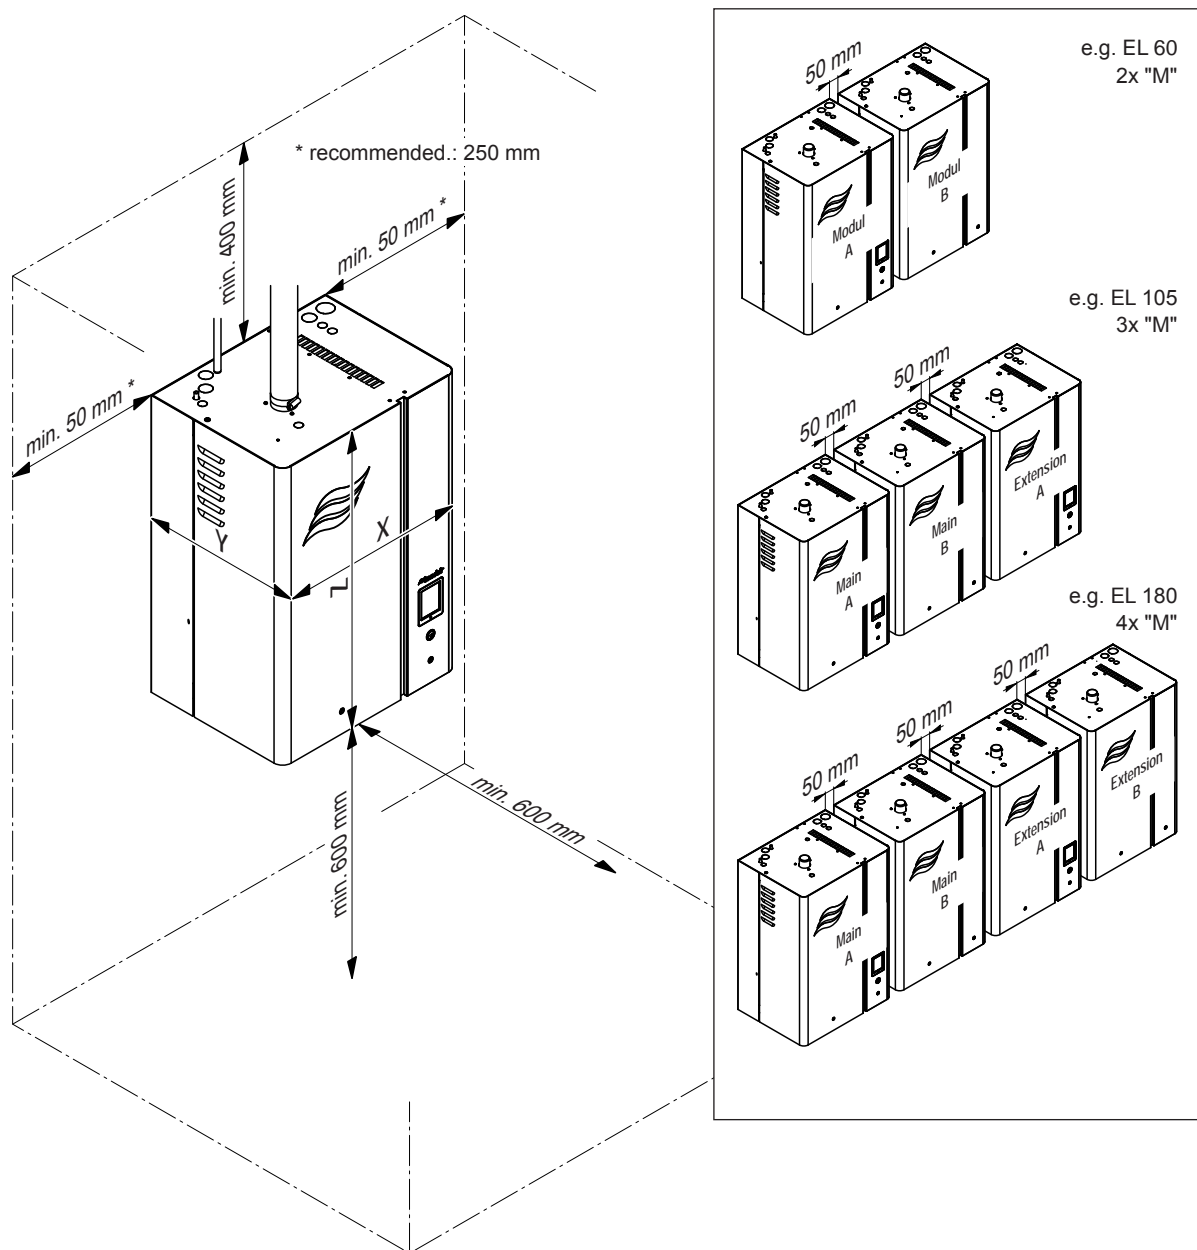

Fig. 9: Distances to be observed
- Install the Condair EL in such a manner that it is **freely accessible** with sufficient space available for maintenance purposes. The **minimum distances** shown in Fig. 9 **must be maintained**.
- In order to use the cables supplied with double units and Linkup systems, the unit must be mounted on the same height, with a maximum distance between the units of 50 mm and in the order shown in Fig. 9.